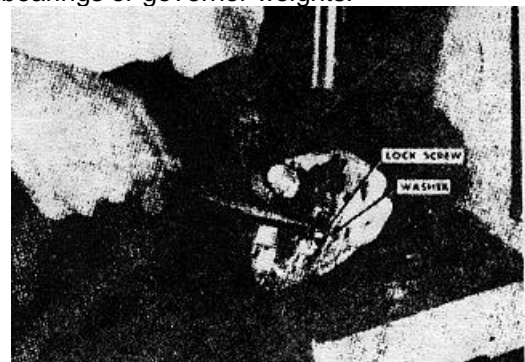

Figure 4-34. Remove the bearing lock screw
9. Remove the governor bearing lock screw and washer. Fig. 4-34.